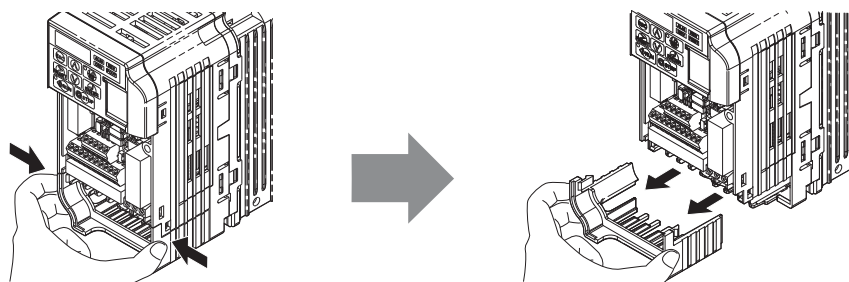
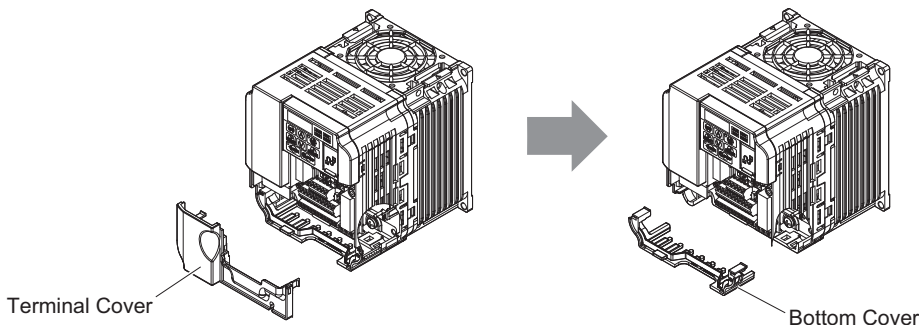

Figure 5 Remove the Bottom Cover on an IP20/Open-Chassis Drive (Models CIMR-V□BA0001B to BA0003B and 2A0001B to 2A0006B)
Figure 6 Remove the Terminal Cover and Bottom Cover on an IP20/Open-Chassis Drive (Models CIMR-V□BA0006B to BA0018B; 2A0008B to 2A0069B; 4A0001B to 4A0038B)
- For IP20/Open-Chassis models CIMR-V□□A□□□□B, remove the bottom cover of the drive by applying pressure to the tabs on each side of the bottom cover. Pull the bottom cover away from the drive while pushing in on the tabs to release the cover from the drive. Refer to Figure 5 for details. Refer to Figure 6 for drive models CIMR-V□BA0006B to BA0018B, 2A0008B to 2A0069B, and 4A0001B to 4A0038B, which require removing the terminal cover prior to removing the bottom cover.